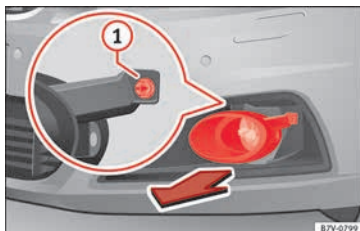

Fig. 110 On the right-hand side of the front bumper: removing the headlights.
1. Pull the cover forwards, in the direction of the arrow » Fig. 110.
2. Unscrew the attachment screw » Fig. 110 ① using the screwdriver from the vehicle tool kit » page 82.
10. Tighten the attachment screw » Fig. 110 ① using the screwdriver.
11. Replace the cover on the bumper » Fig. 110.